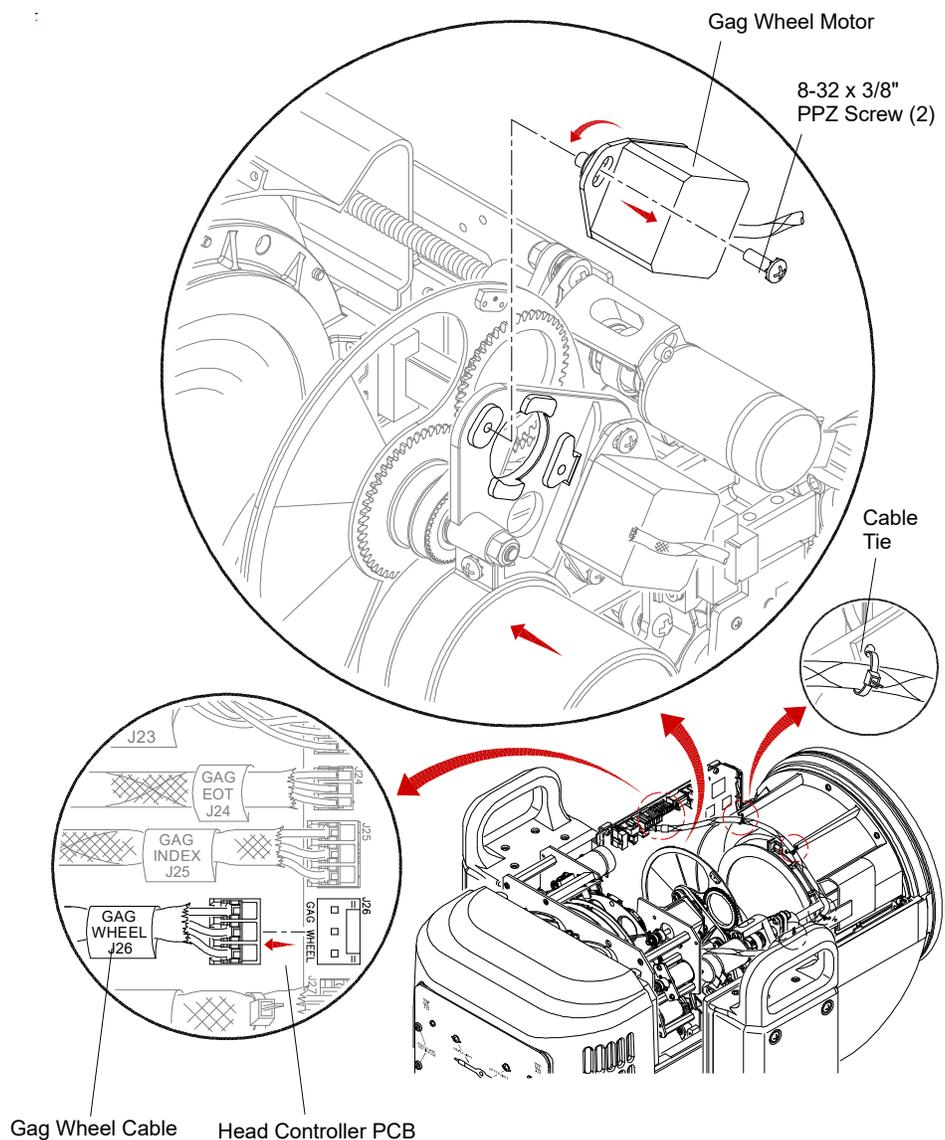

Figure 3-29: Removing Gag Wheel Motor
- Step 4. At Head Controller PCB, disconnect Gag Wheel Cable from J26 (**Figure 3-29**).